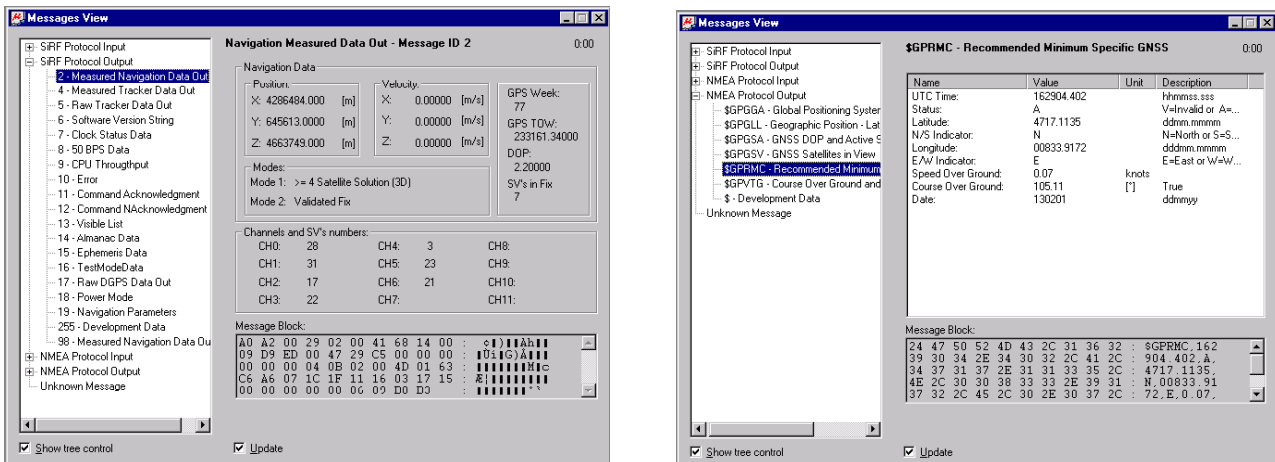

Figure 14: Reading a SiRF-Protocol (left) or a NMEA-Protocol (right)
- **SiRF Protocol Output:** SiRF Binary Protocol Messages from the GPS receiver can be read (Figure 14, left). This function can only be used, if the GPS receiver is in the SiRF-Protocol Mode. To set the GPS receiver to this mode, read **Section 6.1.2.4**.
- **NMEA Protocol Output:** all different NMEA Protocol Messages from the GPS receiver can be read (Figure 14, right). This function can only be used if the GPS receiver is in the NMEA-Protocol Mode. To set the GPS receiver to this mode, read **Section 6.1.2.4**.